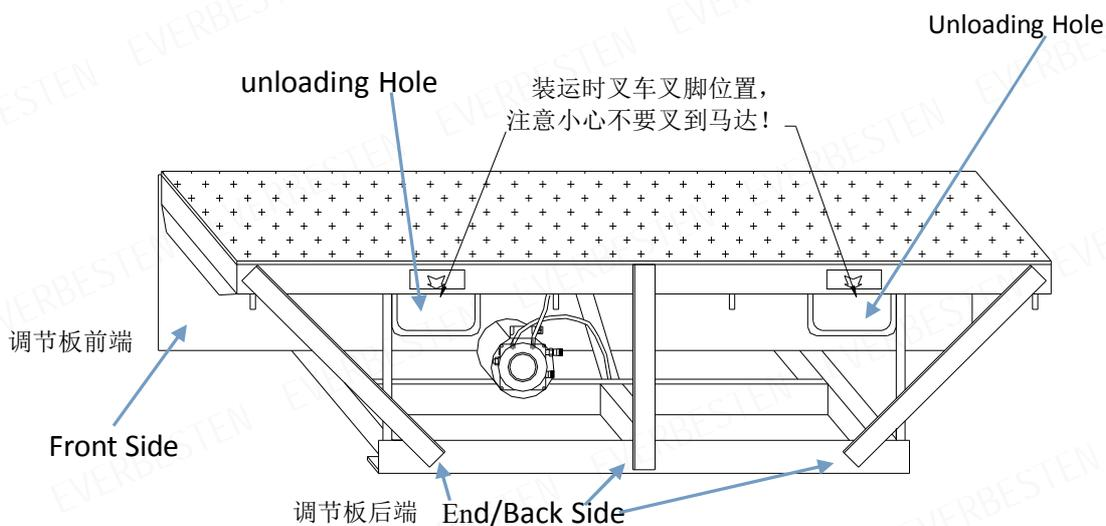

Figure -1
3. Pay more attention to the location of the unloading point/ (Figure-1)and make sure it is ok for Motor and Hydraulic Pipe under the docklever's main board.